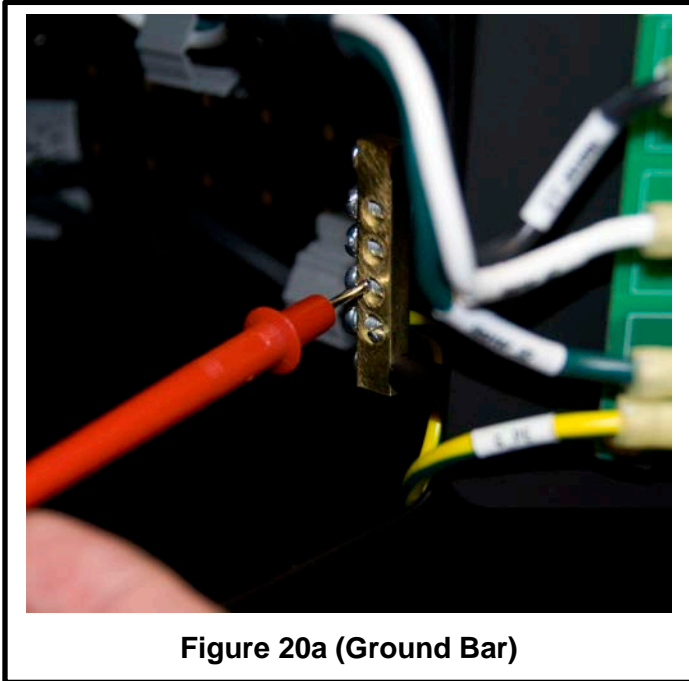

Figure 20a (Ground Bar)
3. Connect the multimeter between the copper grounding bar and the metal portion of the fireplace's front panel as shown in Figures 20a and 20b. Verify that the reading is 0 Ohms (within 0.1 Ohms of the reference value previously noted).